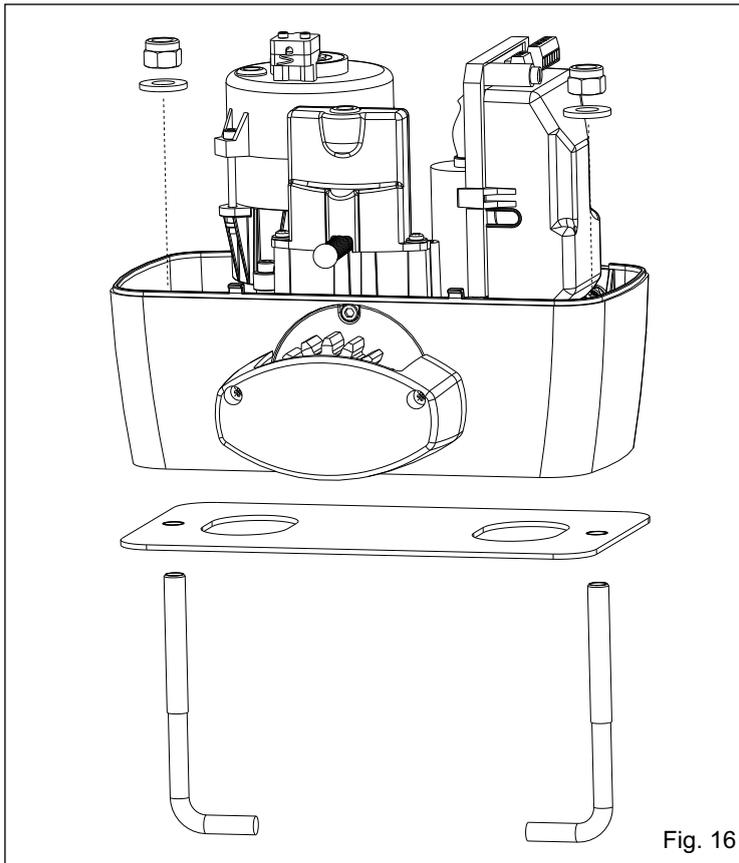

Fig. 16
6.2. Fix the motor on the foundation plate with the 2 included nuts, adjusting the side position (Fig. 16) so to respect the shown quota in (Fig. 13).